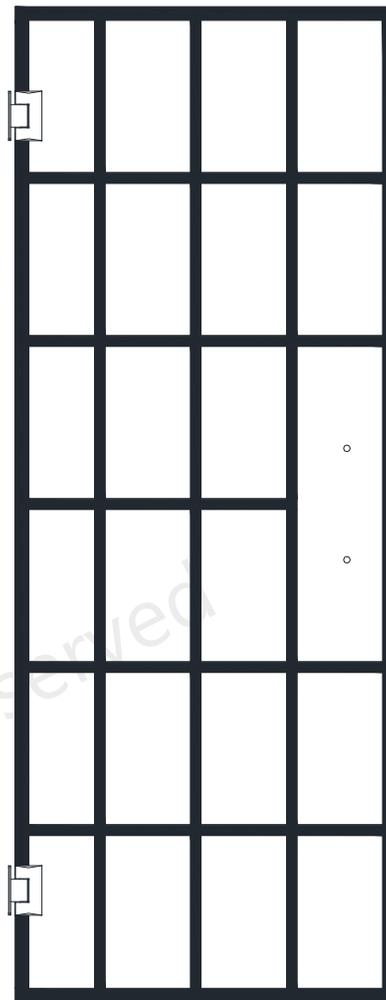

Fig 1b
1. Attach the **Hinges (#05)** onto the **Door Glass (#01)**, using one (**2mm**) vinyl hinge gasket per side. Center the hinge in the notch and flush with the edge of the glass. (**Fig 1a and Fig 1b**)